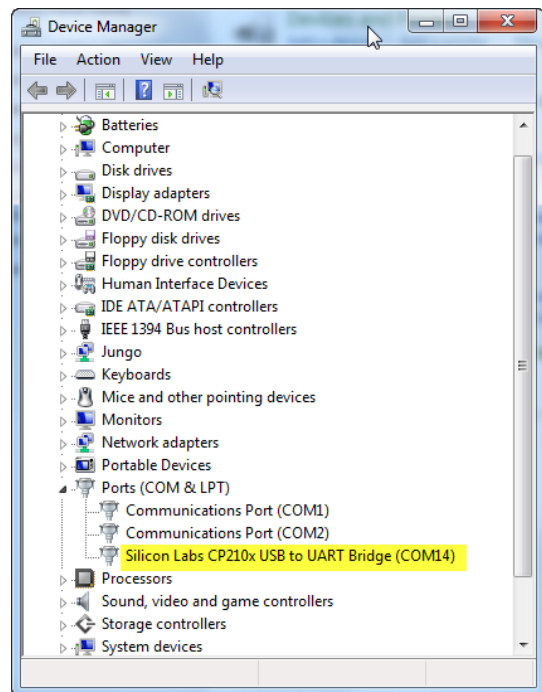

Figure 12 – Device Manager showing COM Port for A-910 Dongle
- Note the COM Port listed and select that COM Port in the A-910 Radio Utility software using the drop-down arrow (see **Figure 12**).